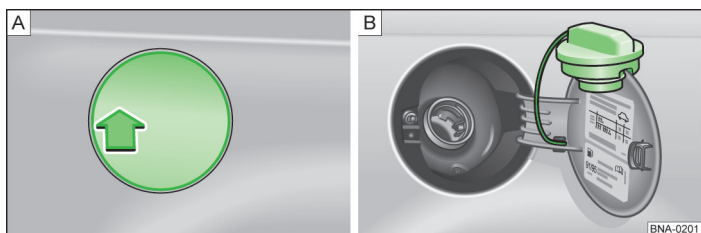

Fig. 55 Open the fuel filler flap / Open fuel filler flap with attached fuel filler cap
- Press on the fuel filler flap located on the rear right of the vehicle » fig. 55 -  (arrow). The fuel filler flap will spring forward slightly.
- Unscrew the fuel filler cap counter-clockwise and hang it from above into the fuel filler flap » fig. 55 - .